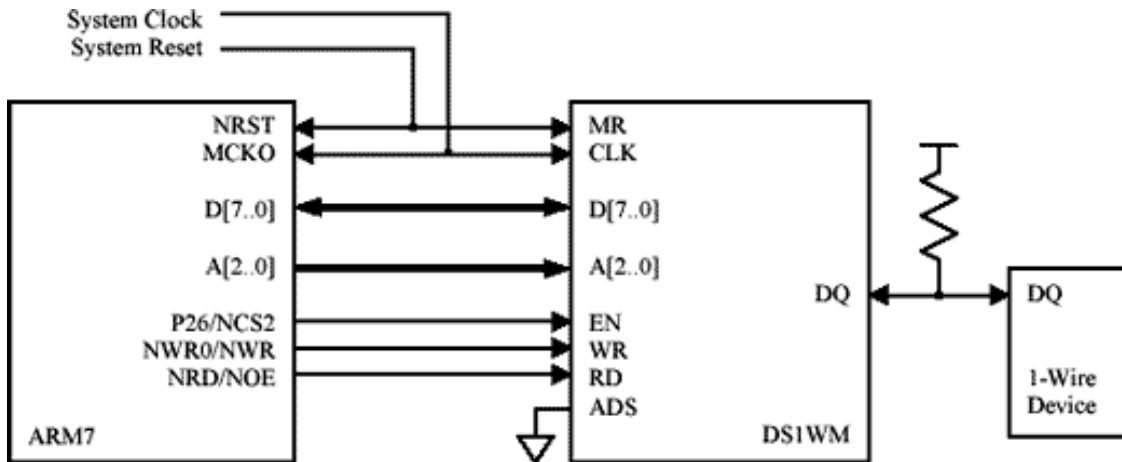

Figure 1: Bus connections between ARM7 and DS1WM
The 1-Wire Master requires no external components to map into the ARM7's data bus. Figure 1 shows all necessary connections. The example figure uses one of the ARM7's programmable chip select lines (NCS2) to generate the enable pulse for the DS1WM. However, any negative logic chip select generated by the ARM can be used. The DS1WM's Master Reset (MR) and Clock (CLK) should be connected directly to the system reset and clock. The Address Strobe (ADS) is not used for interfacing to the ARM7 and must be grounded.